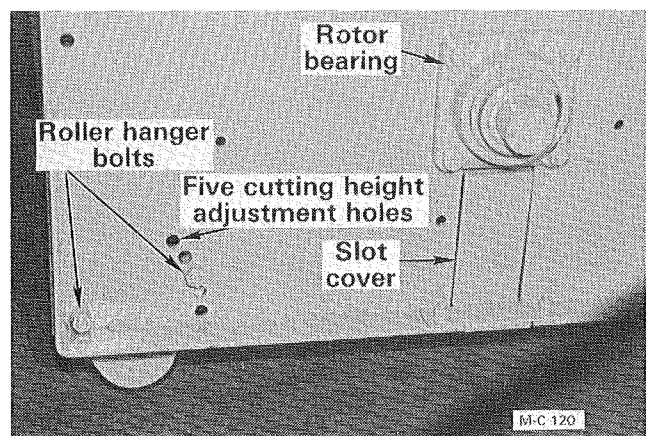

Figure 4
hole on both sides of the mower body, see Figure 4. Secure with lockwasher and hex-nut, do not tighten.
4. Raise the gauge roller to the height you want to cut and install a 1/2-13 x 1 1/2" (Grade 5) hex-head capscrew thru the hanger into the adjustment hole on both sides of the body, see Figure 4. These capscrews must be in the same hole on each side. Secure with lockwasher and hex-nut.